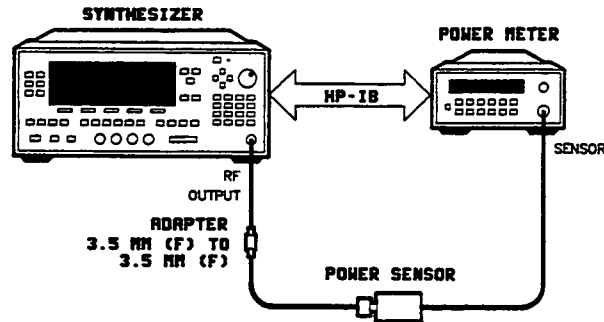

Figure 3-29. Power Flatness Adjustment Setup
1. Preset the instruments shown in figure 3-29. Do *not* connect the power sensor to the synthesizer RF OUTPUT yet. Let both instruments warm up for at least one hour.